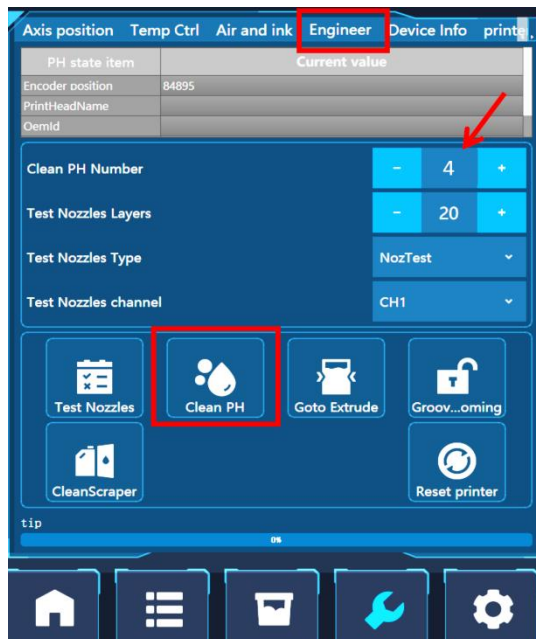

fig. 3-8 Clean PH Number 4
- ① Click **Tool** to enter the **Engineer**, set **PrintHead** cleaning count to 4, as shown in figure 3-8.